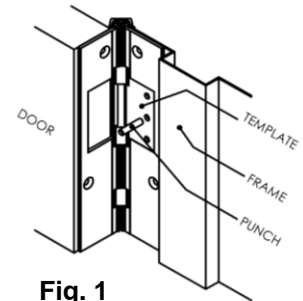

Fig. 1
3. Using the transfer punch, center punch both the mounting holes and the wire access hole. See Fig. 1. The middle hole is the wire access hole.